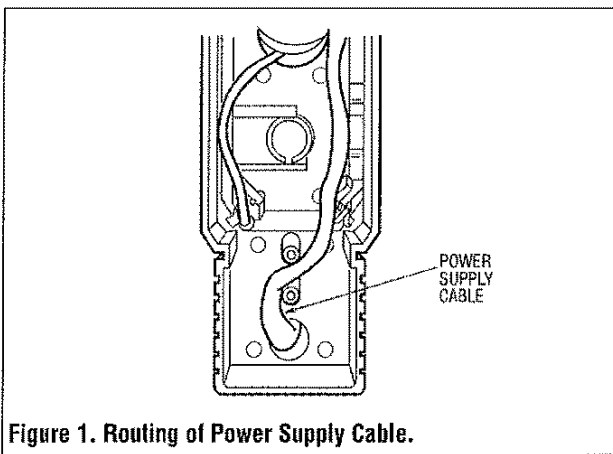

Figure 1. Routing of Power Supply Cable.
2. Remove accessory section cover by removing two (2) screws in the lower front corners.
3. Route accessory power supply cable and any control wiring to accessory mounting location providing approximately ten (10) inches (254mm) of cable for connections in accessory box. See Warning 6.
**NOTE:** Power supply cable(s) may enter accessory box through either of the two (2) knockouts in back or the two (2) holes in bottom portion of plastic junction boxes. A suitable cable clamp is required if a knockout is used. If the openings in the junction boxes are used, the cable must be routed as shown in Figure 1 to provide the proper strain relief system required by the National Electrical Code.